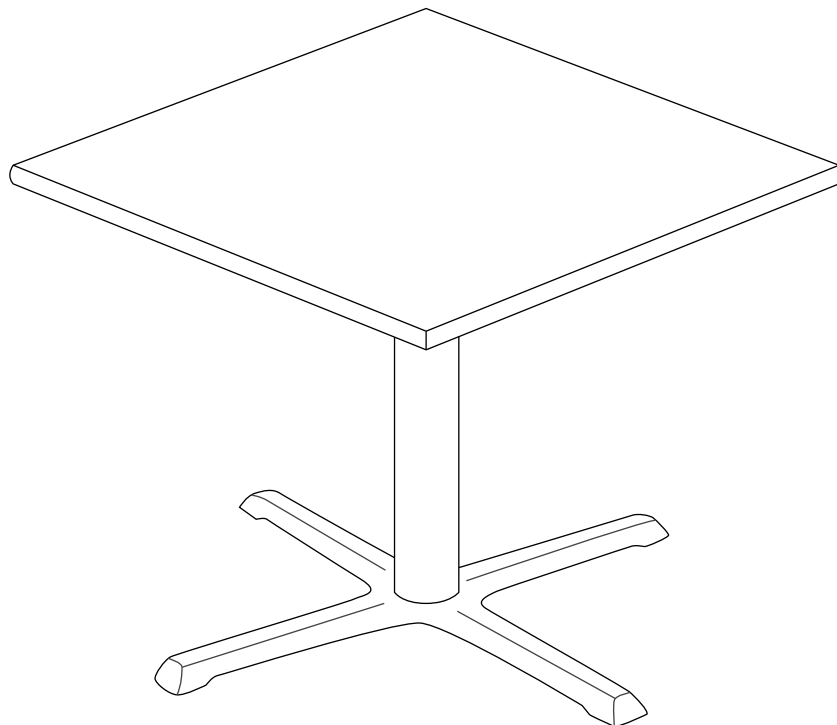

Figure 3
9. Flip the assembled table over onto the base and adjust the glides underneath the base to achieve levelness of the table. This completes the assembly of your Maxwell Thomas dining table (*Figure 3*).